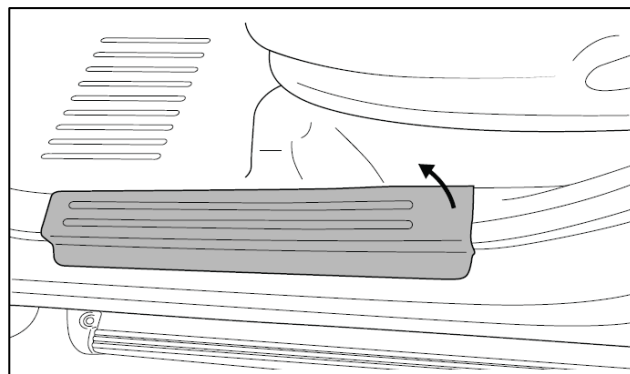

Figure 9
10. Using the table below, carefully strip, connect and solder the two Bossco 4x4 central locking harness wires (black and red) to the unlock and lock wires in the OEM harness. (See figure 9). Make sure to use electrical tape to insulate any exposed wires and secure any loose wires with zip ties.